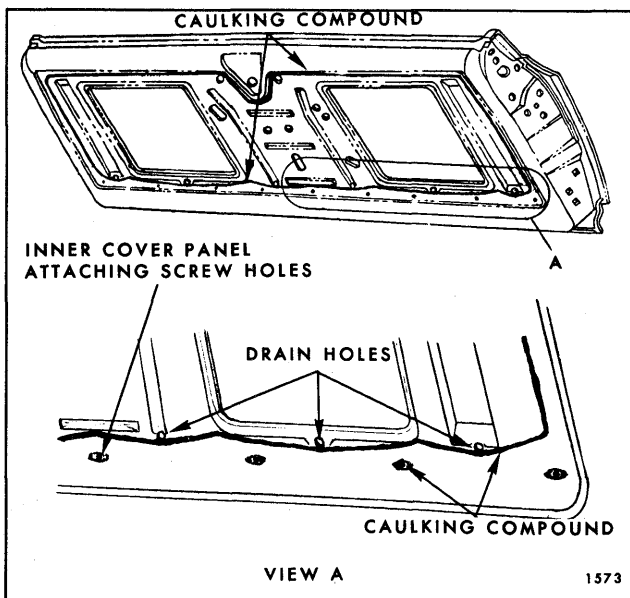

Fig. 9-27—Tail Gate Sealing
3. If needed, apply a bead of body caulking compound (approximately 3/16" diameter) to tail gate inner panel. (See Fig. 9-27.) The inner panel cover attaching screw holes should also be sealed with body caulking compound.